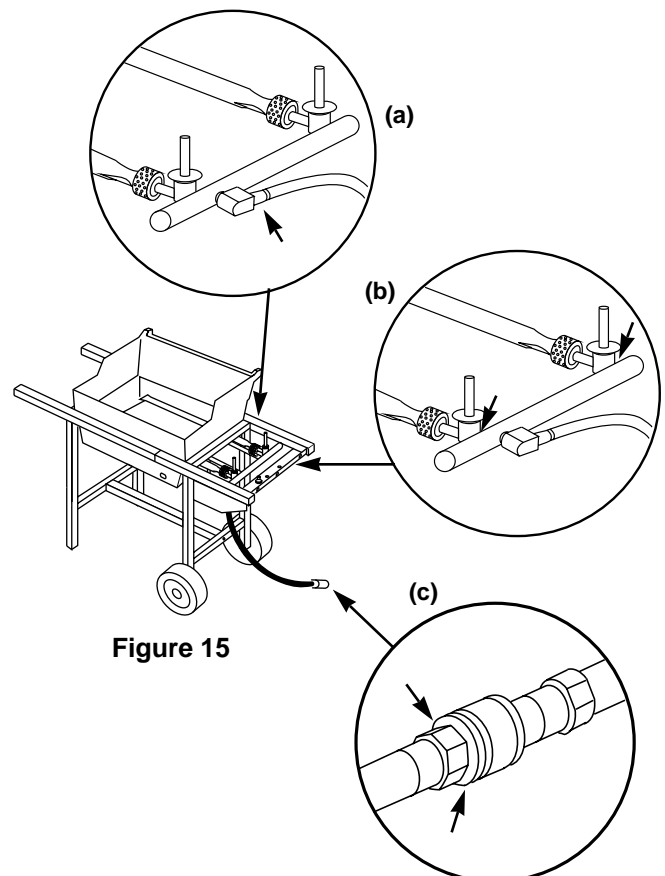

Figure 15
a) Hose to manifold connection. Figure 15 (a).
⚠WARNING: If there is a leak at the hose to manifold connection, Figure 15 (a), retighten the hose fitting with a wrench and recheck for leaks with soap and water solution.
b) Valves to manifold connections. Figure 15 (b).
c) The hose to quick disconnect connection. Figure 15 (c).